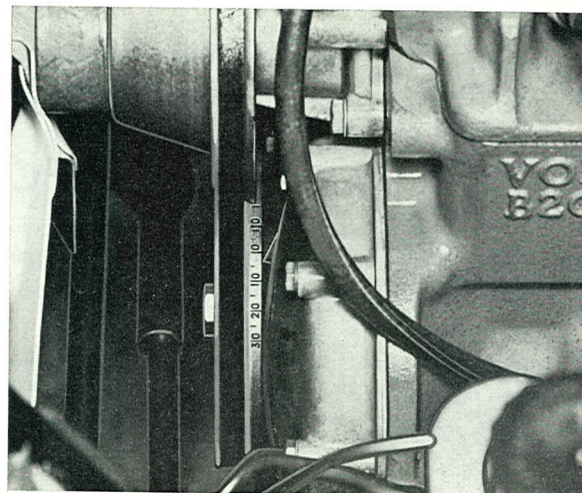

Fig. 3-58. Graduation for ignition setting
1. Clean the flywheel damper so that the graduation marks are visible, see Fig. 3-58.